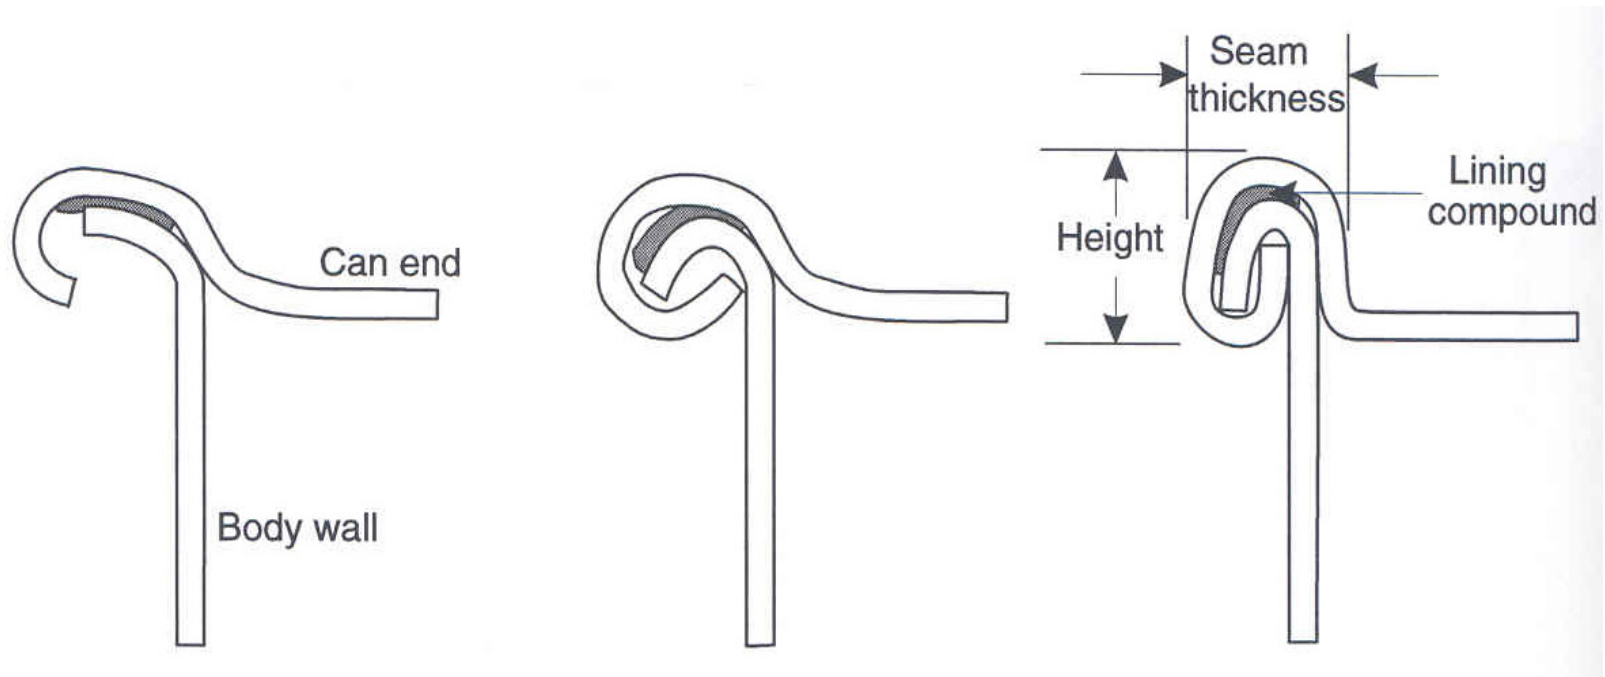

Figure 5.6 Double-seaming is the attachment of the can end to the body. It involves two curling steps.
- Can-end compound applied around the perimeter curl as a caulk or sealant (Figures 5.6 and 5.7).